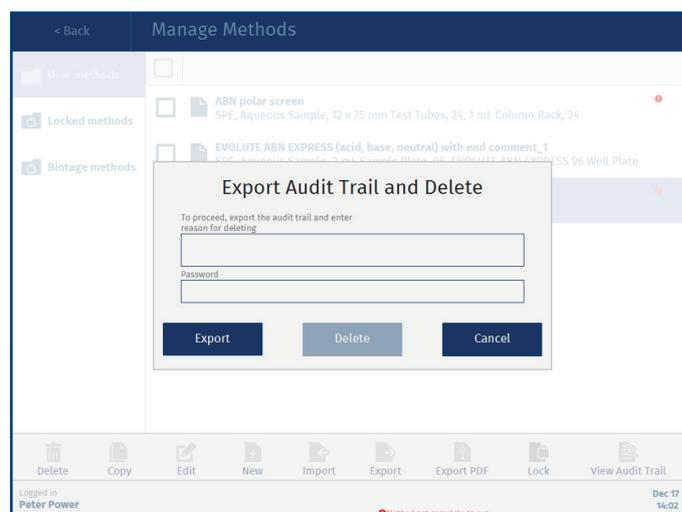

Figure 55. The Export Audit Trail and Delete dialog.
2. Select the method and press **Delete**. The **Export Audit Trail and Delete** dialog opens; see Figure 55.